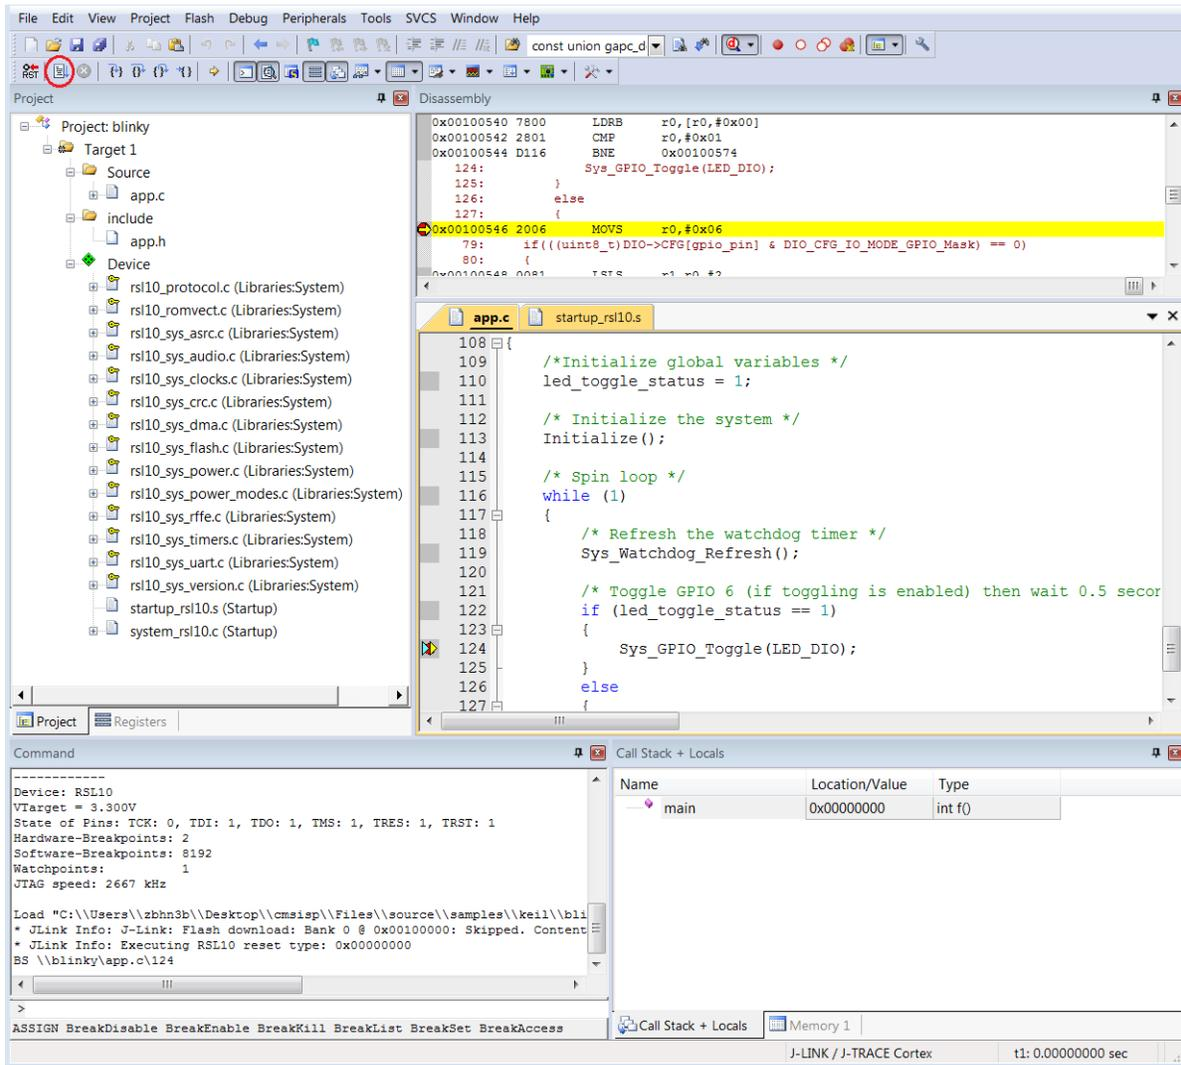

Figure 25. Debug Session in the Keil μ Vision IDE
3. The application runs up to the first breakpoint in *main*, as shown in Figure 25. You can press F11 multiple times to step through the code and observe that the LED changes its state when the application executes the function *Sys_GPIO_Toggle* (LED_DIO).